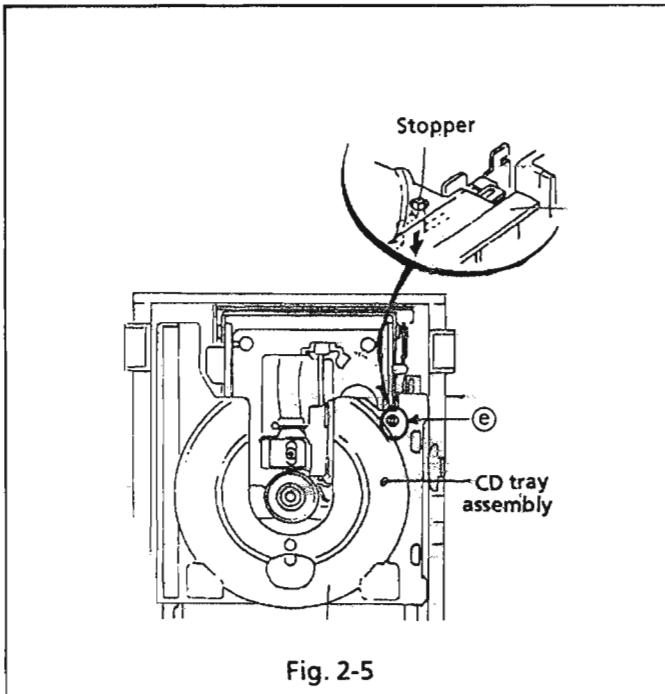

Fig. 2-5
9. Check that the lifter unit stopper is inserted into hole (e) located on CD tray ass'y. (See Fig. 2-5.)